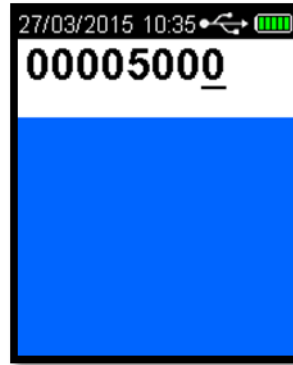

Figure 79 Password Set-up Code 00005000
- Press the Up button until that number us '5' (Refer Figure 79).